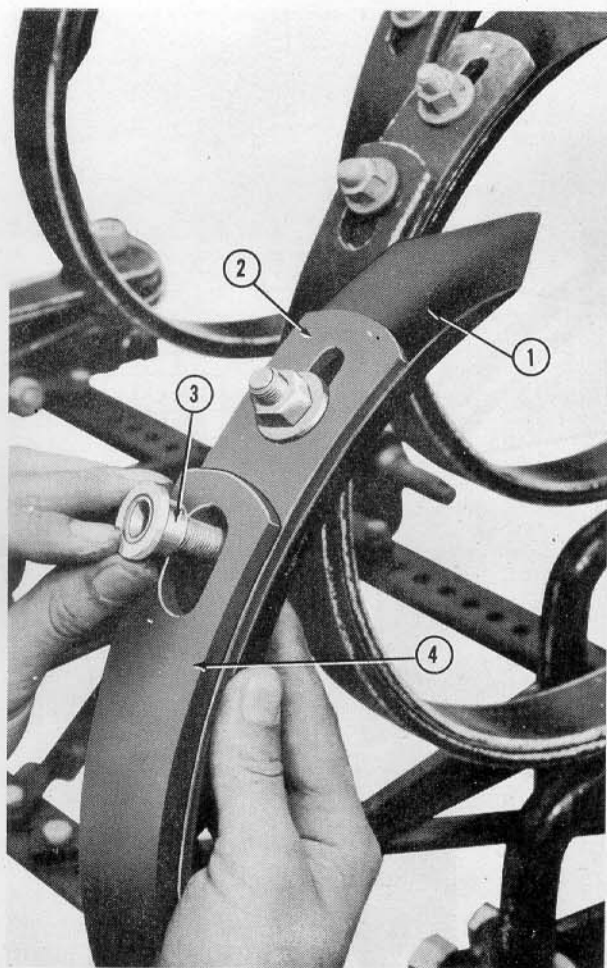

Figure 4
3. Attach the shovel (1), Figure 4, to the front spring (2) with the short bolt. Do not tighten nut. Insert the long bolt through the top hole of the shovel and both springs. Place the spacer (3) on the bolt and insert it in the slot of the helper
spring (4), as shown in Figure 4. Then tighten all nuts securely. The spacer permits flexibility in the spring shank assembly.